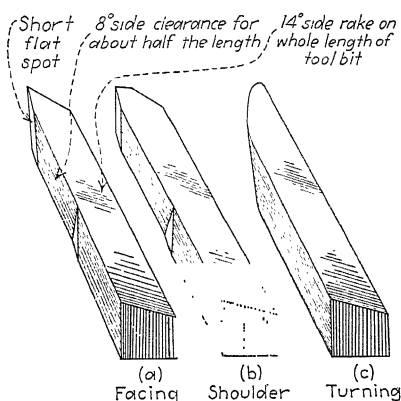
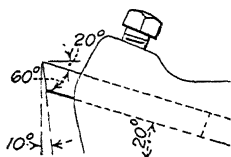

FIG. 51.—Tool bits beveled on the top for side rake angle. Sharpened by grinding on the end only.
FIG. 52.—Tool bit is held in the holder at an angle of 20 deg. to give the front rake.
In lathe tools it usually is necessary to have the top of the tool on a double slope, from the front and from the side, otherwise the cutting angle will not be acute enough. Also, having the double slope causes the chip to "flow" in the desired direction. The slope from the front is called *front rake* (in some shops, back rake) and the slope from the side is called *side rake* (see Fig. 49). The number of degrees of these rake angles depends, of course, on the cutting angle required, the more rake a tool has the less cutting angle it has, that is, the sharper the wedge is. A cutting angle of 70 deg. is average for cast iron and tool steel, and 60 deg. is average for machine steel. In a toolholder the front rake is taken care of, usually, by the position of the bit at an angle in the holder (Fig. 52). The side rake may be nicked in the bit or it may be ground as illustrated in Fig. 51.
In this connection refer again to Fig. 51; regular tool bits for the lathe, shaper, and planer are sharpened by grinding on the end only, when previously beveled as shown. The tool bit is ground in a surface grinder for a side rake of 12 to 14 deg. its whole length. It is an improvement for the usual facing, shouldering, and turning tool and for standard thread tools. (For shaper and planer bits the bevel is from the opposite edge.) Side rake is thus provided once and for all. All sharpening is done on the end and the bits do not
**65. Grinding Cutting Tools.**—The beginner should grind a practice piece of machine steel (preferably a little larger than the tool bit so as not to get them mixed) and acquire the knack before attempting to grind an expensive tool bit. It may be fairly difficult at the start to grind the proper front clearance because the bit when in use is held at an angle in the holder. Until the eye is trained, use a gauge. The 60-deg. center gauge is suitable, if 10 deg. front clearance is wanted, because in most of the holders the tool bit is set at an angle of 20 deg. with the horizontal (Fig. 52). For any other than 60 deg.